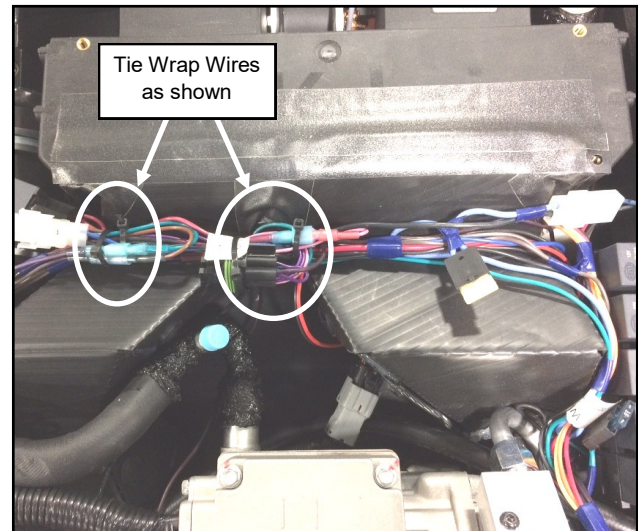

Fig. 1.10 (Tie Wrap Harnesses together)
- 1.10** Bundle the wires in the tray formed by the ductwork as shown in fig. 1.10 and use the supplied tie wraps to hold the harnesses together.